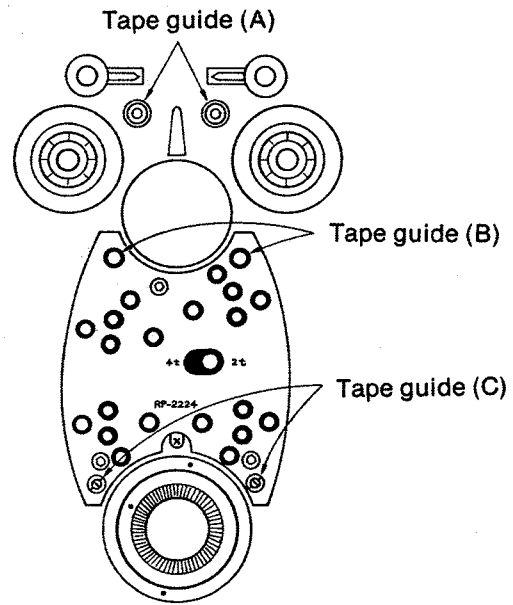

Fig. 19
Six tape guides are used. As shown in figure 19, they are divided into 3 groups (A, B and C). Of these, tape guides (B) are fixed, and thus become the standard for tape movement.